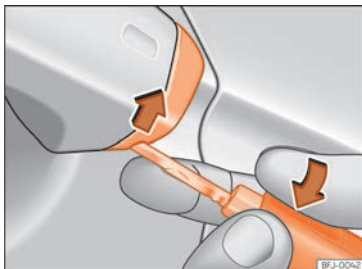

Fig. 81 Driver door handle: lever the cover off
- Insert the key shaft into the lower opening in the cover on the driver door handle »» Fig. 81 then remove the cover upwards.